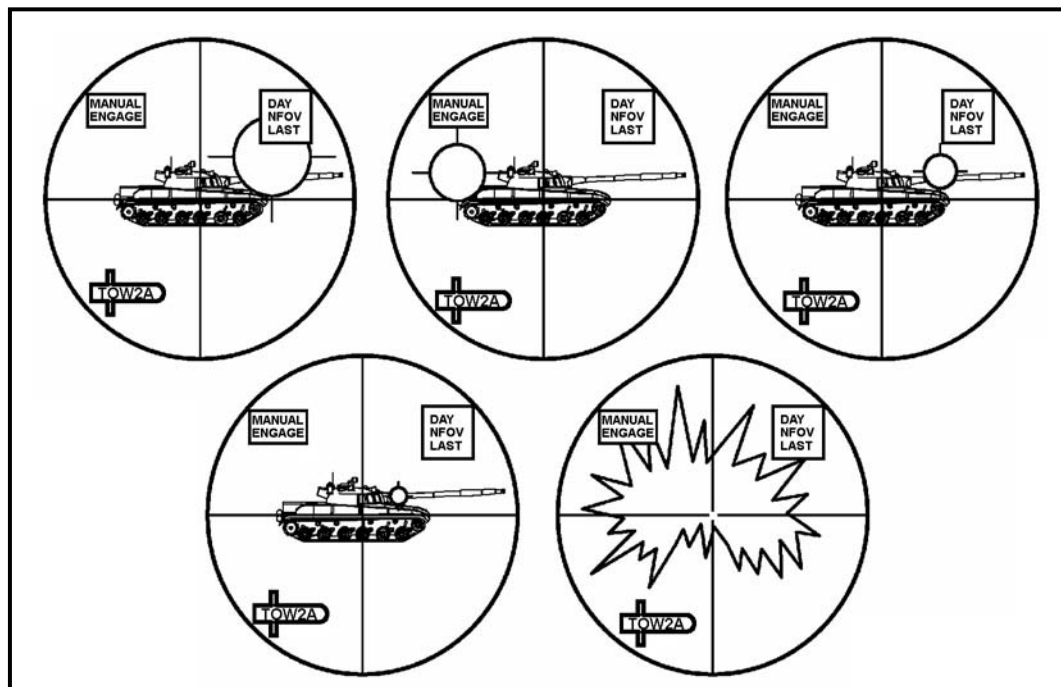

Figure 3-17. Missile impact.
(3) When the missile appears in the sight picture (Figure 3-17), the gunner ignores it. **He never tries to guide the missile.** If he is distracted, his tracking becomes poor and his chances of hitting the target are reduced. The gunner keeps the crosshairs on the center of visible mass of the target until impact.